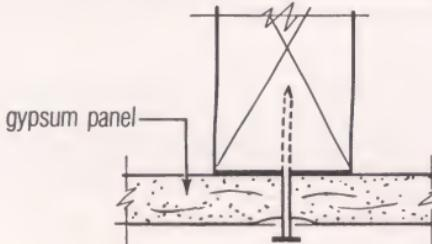

Fig. 14
**Remedy:** Repairs usually are necessary only for pops which protrude .005" or more from face of board (Fig. 14). Smaller protrusions may require repair if they occur in a smooth gloss surface or flat-painted surface under extreme lighting conditions. Those which appear before or during decoration should